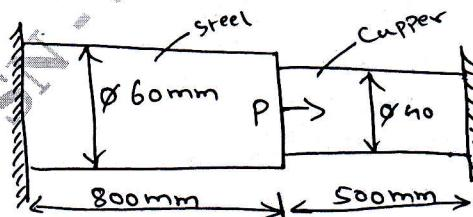

Fig.Q3(a)
- 3 a. Determine the nodal displacement, stress in each element and support reaction in the bar shown in Fig.Q3(a).due to applied load $P = 100\text{kN}$ take $E_{\text{steel}} = 200 \text{ GPa}$; $E_{\text{cu}} = 100 \text{ GPa}$.